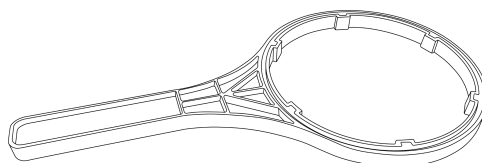

Fig 5
5. TWIST open the housing from the lid, using the tools provided in the installation kit (Fig 5)